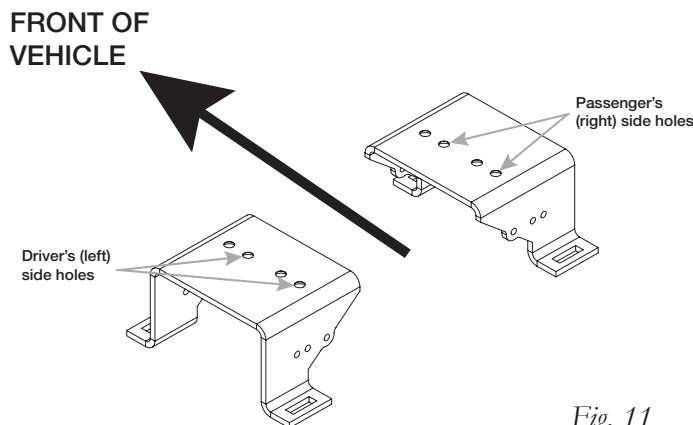
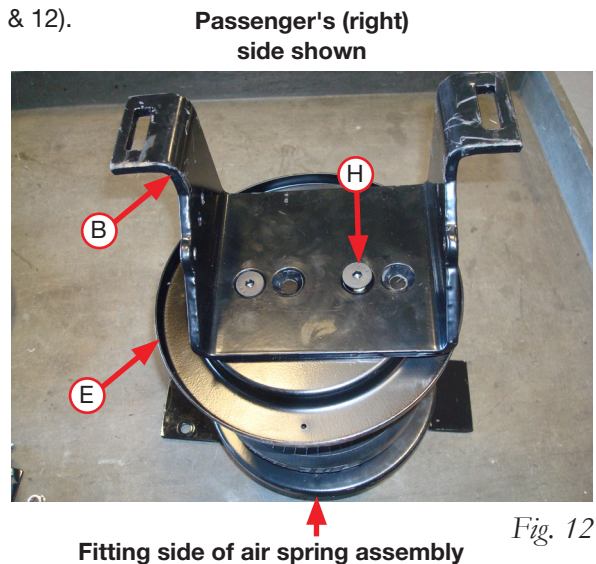

Fig. 11
Fig. 12
3. To determine which holes in the lower bracket (B) to use for installing on the air spring assemblies, set them next to each other with the angled sections pointing toward each other (Fig. 1, Fig. 11 & Fig. 12). Use the first and the third holes on each bracket to attach to the air springs. Set a roll plate (E) onto the air spring assembly and attach the lower bracket onto the air spring with two 3/8" flat head screws (H) and torque to no more than 20 lb.-ft (27Nm).